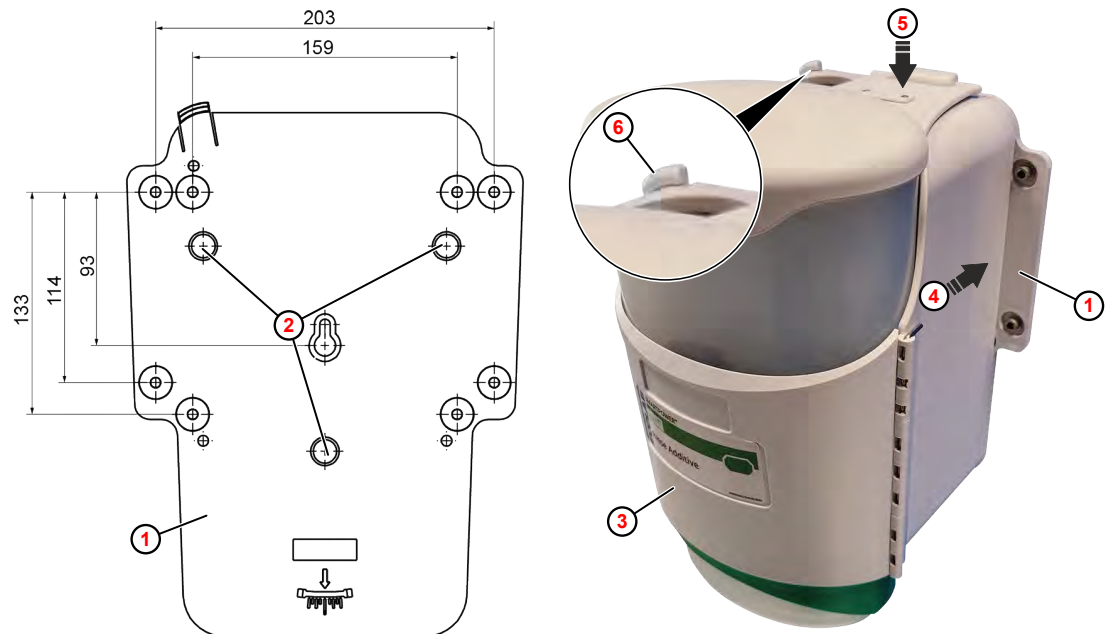

Fig. 3: Mounting the unit (with the rinse dispenser as an example)
1. Select the final location of the SMARTPOWER™ Rinse Dispenser and drill holes in accordance with the Fig. 3 .
3. Attach the mounting plate (1) with dowel screws.
4. SMARTPOWER™ Rinse Dispenser (3) Put (4) the on the retaining pins.
5. SMARTPOWER™ Rinse Dispenser Press the down (5) until the locking tab (6) on the top of the unit clicks into place.